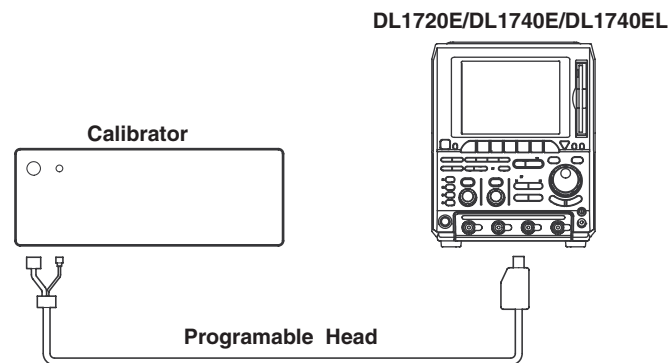

Figure 3.4 Connection Method
3. Connect each instrument as shown in figure 3.4, "Connection Method."